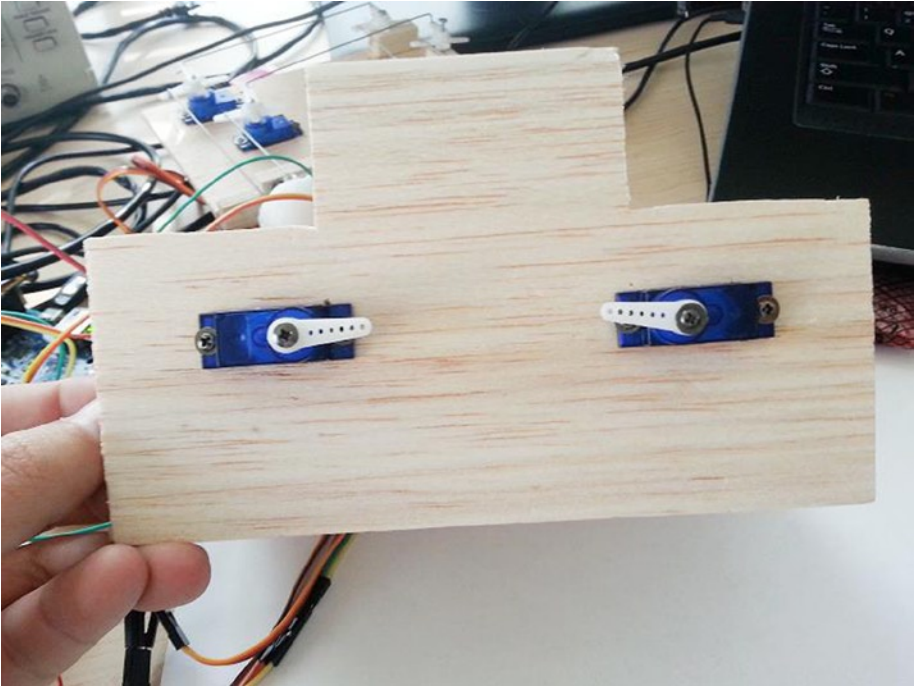
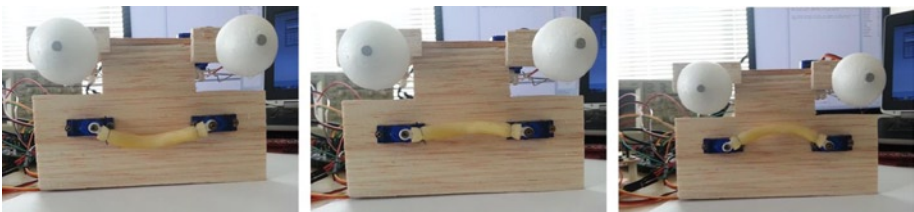

Figure 13-24. *Placing the servos in the mouth frame*
Figure 13-26. *The final mounting with all three emotional expressions*
After they have been adjusted to 90 degrees, place the servos so that the shafts are toward the centers and connect the accessories, as shown in Figure 13-24.
Place the animatronic eyes at top of the mouth frame and hot glue and you are done. Figure 13-26 shows the final mounting with all the expressions.
- **The mouth:** Two servos are used to control the mouth in a very simple way. When the servos are at 90 degrees, the expression is serious. When they raise 30 degrees, the mouth forms a sad expression. If they move down 30 degrees, the mouth looks happy. The software is very simple; you just attach the servos and move them as you learned in Chapter 4. The only trick is that when one servo moves, the other one must have the inverse movement in order to synchronize the lips, as shown in Figure 13-26. This is due to the position of servos having the shafts pointing to each other, as shown in Figure 13-24.